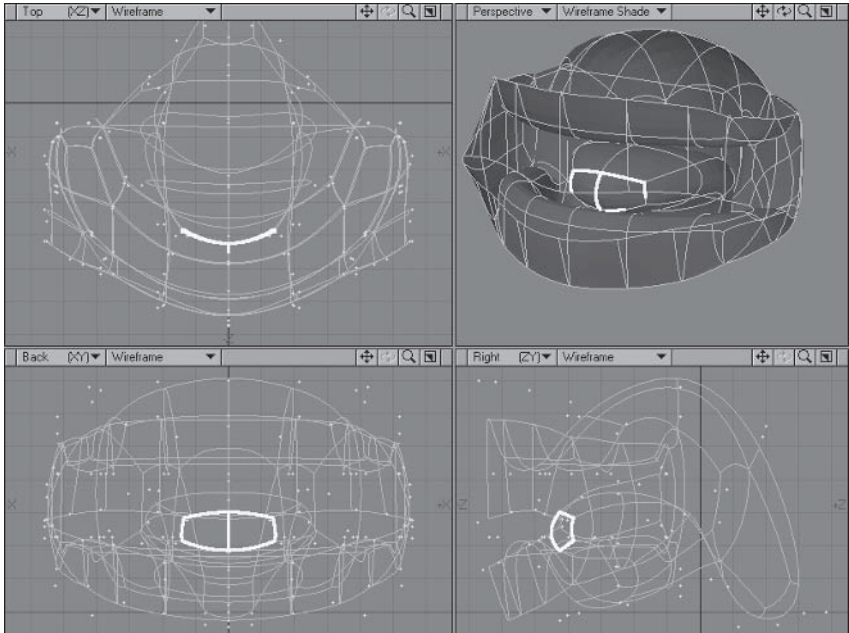

Figure 5.3-108. The tip of the tongue.
4. **Super Shift** again, **Move**, and adjust the polygons to match Figure 5.3-108, creating the tip of the tongue.